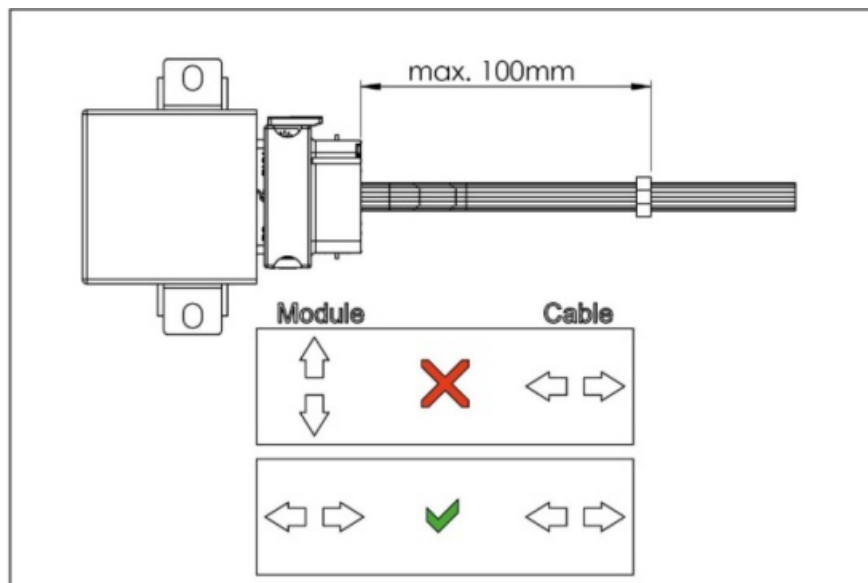
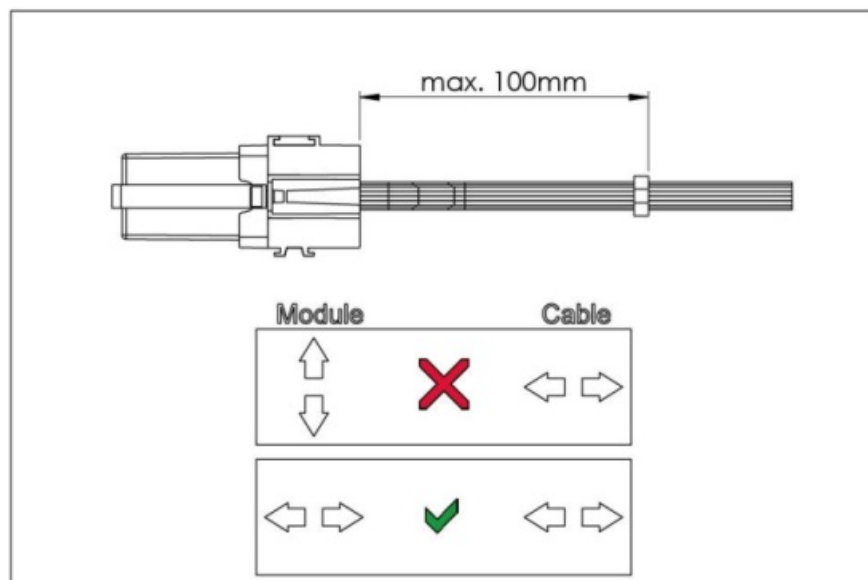

Figure 2: Strain relief of the cable harness (example). 100 mm (max.) are mandatory, controller may vary.
Figure 3: Strain relief of the cable harness (example). 100 mm (max.) are mandatory, controller may vary.
- The cable routing must be selected in such a way that the cable harness only moves identically to the direction of movement of the controller/plug. (Attachment controller/cable/strain relief on the same underground). A strain relief is necessary (see Figure 2 and Figure 3).